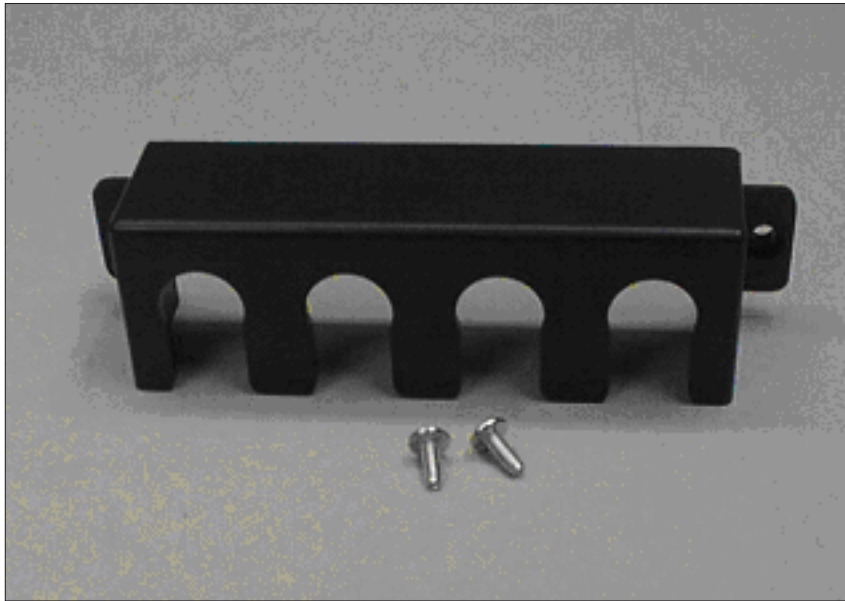

Figure 306. 2145 UPS-1U power cable-retention bracket hardware
**Note:** The 2145 UPS-1U power cable-retention bracket (shown in Figure 306) can be attached only to the most recent versions of the 2145 UPS-1U. Older versions do not have the correct mounting holes.